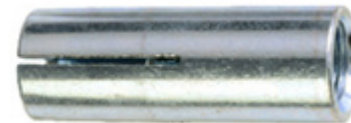

Figure 4
4. The drop in anchor is a female anchor designed for use in solid concrete only and can't be used in brick or block base material. The anchor size is designated by the inside diameter of the anchor. The Saris Infrastructure electric pump pedestal comes with 3/8" - 16 anchors. The diameter of the hole to be drilled is the same size as the outside diameter of the anchor which is 1/2". (Figure 4)